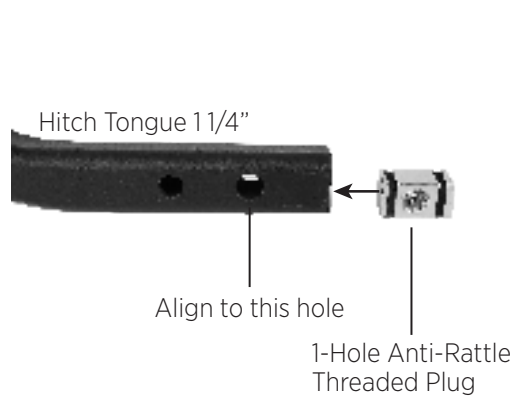

Fig. 8
2. Align and insert 1-Hole Anti-Rattle Threaded Plug to large hole at end of Hitch Tongue (similar to STEP 2) (**Fig. 8**).